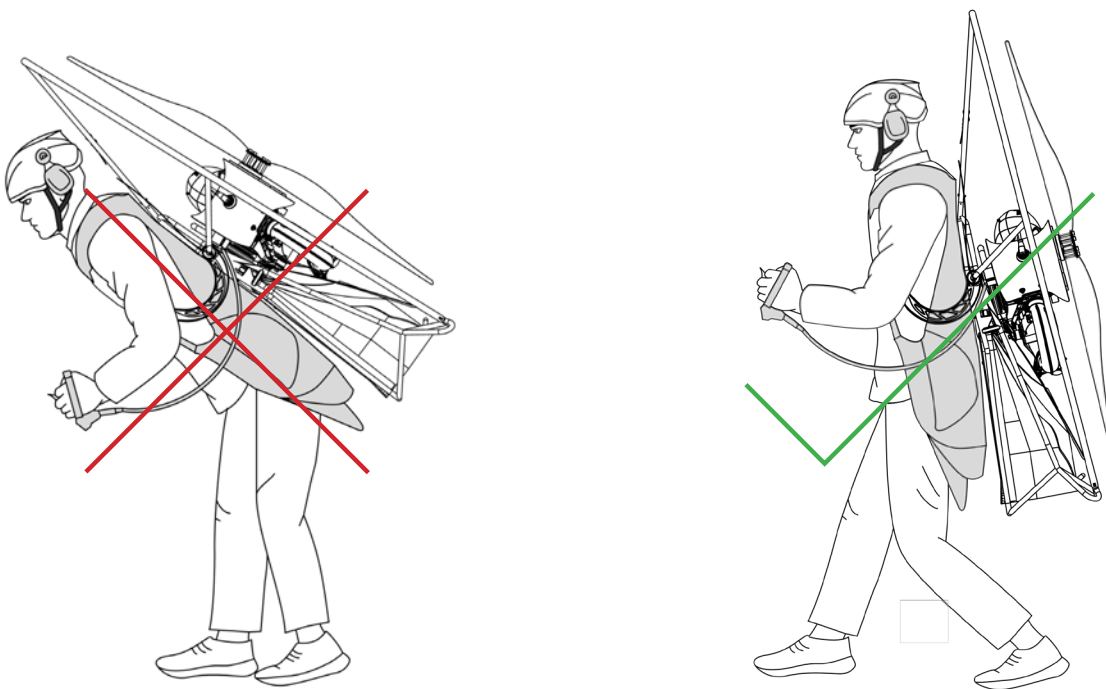

FIGURE 4.3
4. Try and keep the paramotor near vertical, do not lean over and point the propellers upwards (Figure 4.3).